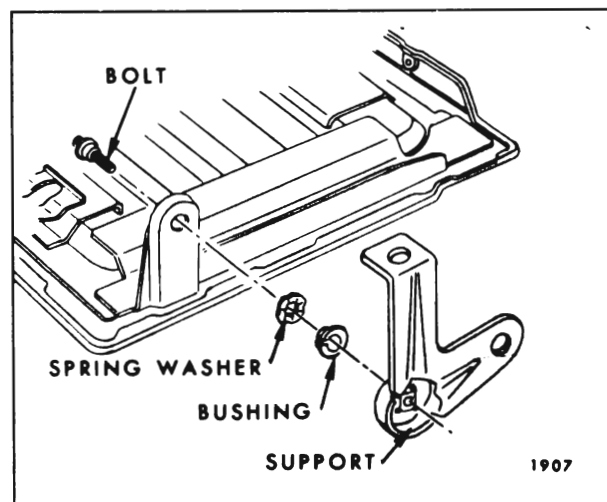

Fig. 15-53—Third Seat Cushion Panel and Support
To remove support, remove cushion from panel assembly; then remove bolt securing support to cushion (Fig. 15-53).
3. To install, reverse removal procedure. If support was removed from seat cushion panel, make sure bushing and spring washer are properly installed. (See Fig. 15-53)